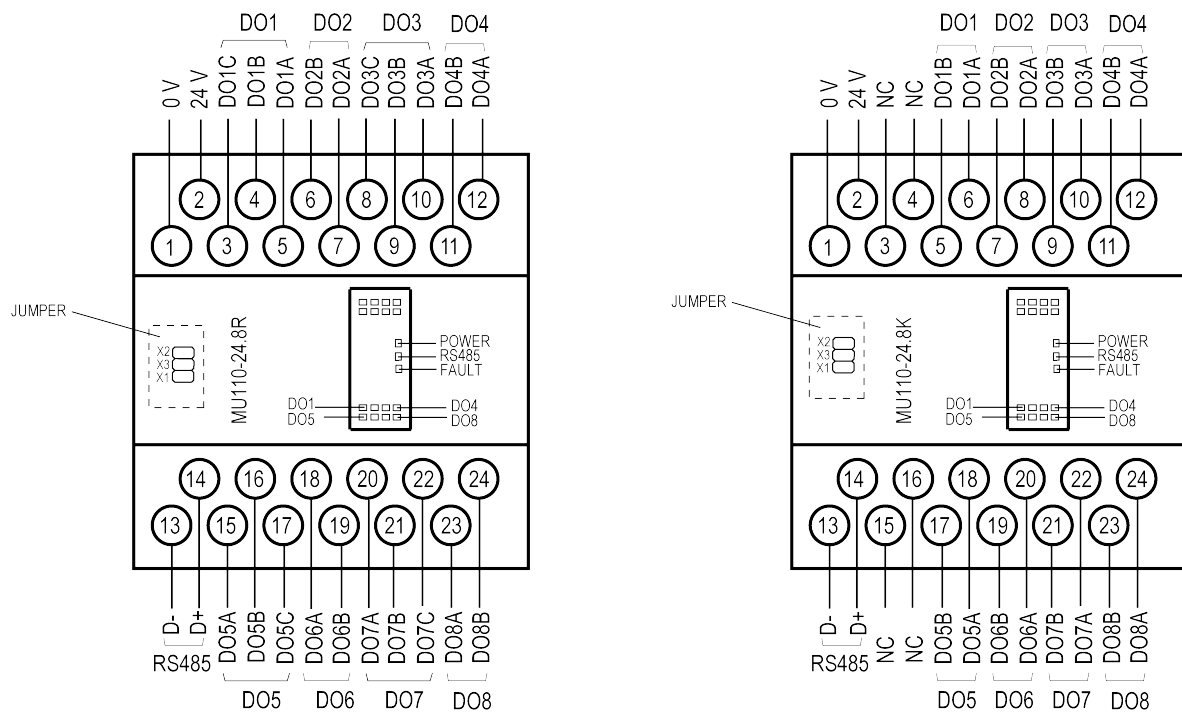

Fig. 5.1 Electrical connections
2. Open the front cover of the module (see Fig. 5.1).
The electrical connections are shown in Fig. 5.1 and the terminal assignments in Table 5.1 and Table 5.2.